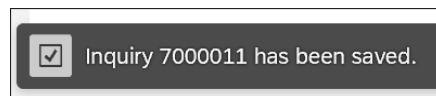

Figure 4.41 Save Message with Document Number
5. To save changes to your inquiry click on the **Save** button in the lower-right corner of the SAP Fiori screen. A message should appear with your inquiry document number on the status bar in the lower-left corner of your screen, as shown in Figure 4.41.